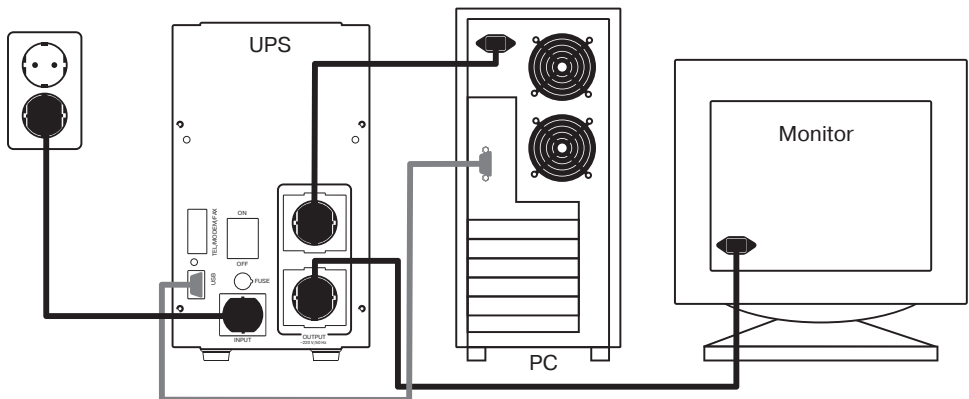

Fig. 3. UPS connection diagram
- Connect the power cable of the computer equipment to one of the UPS output sockets (8), and the monitor power cable – to the other UPS output socket (see connection diagram in Fig. 3). Then connect the supplied power cable to the UPS input socket (9), and put its plug into a mains outlet.
- Connect the USB interface cable to the corresponding socket (11) and to an available PC USB port (connection is optional).